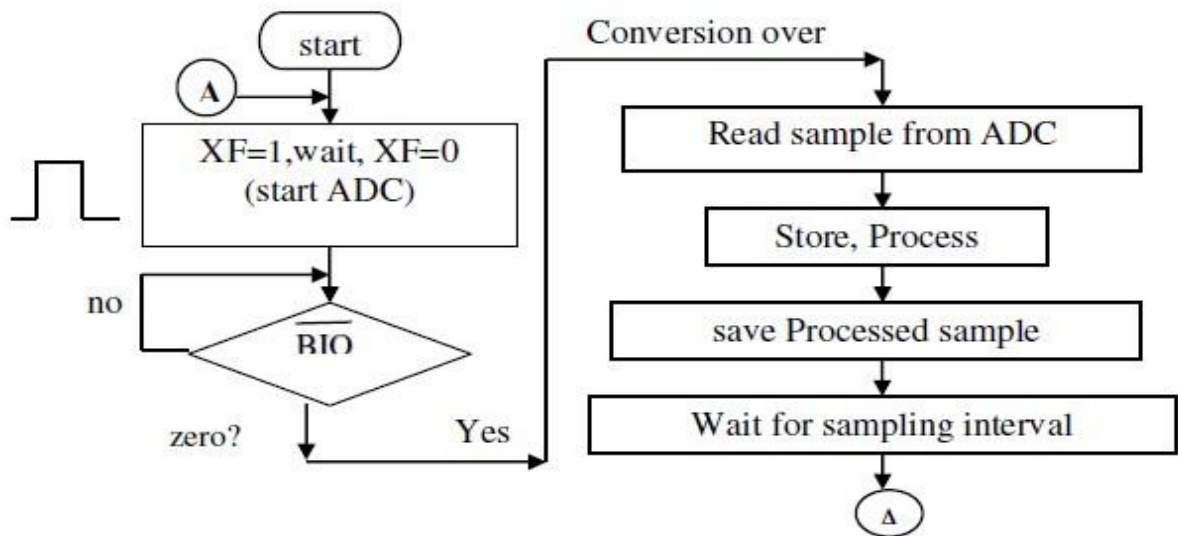

Fig. 7.8: Programmed I/O mode
- The flow chart of the activities in programmed I/O is shown in fig. 7.8.